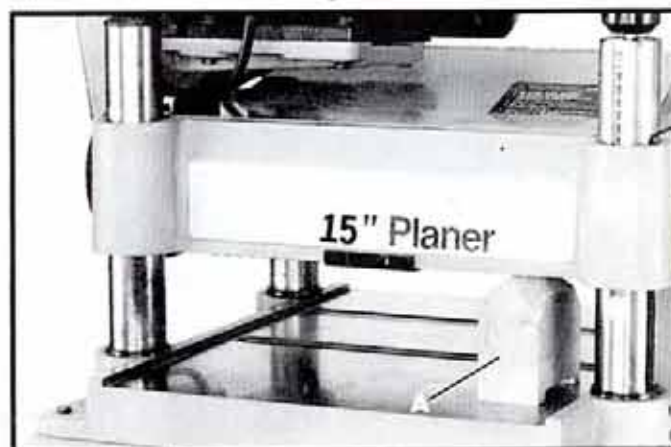

Fig. 46
3. Move gage block (A) Fig. 46, to opposite end of table, as shown. Distance from table to edge of head casting should be the same.